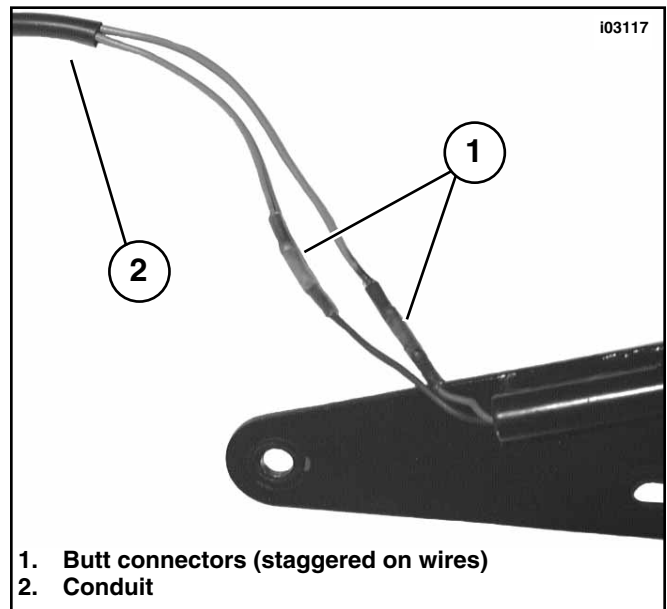

Figure 9. Install Wiring Harness
11. See Figure 9. Obtain two sealed butt connectors (1) (Part Number 70585-93) from kit. Following instructions in Service Manual under "Installing Sealed Butt Connectors", match wire colors and splice wiring from turn signal to harness. Install butt connectors in a staggered pattern so conduit will tightly fit over wires. Slide conduit (2) from harness over butt splices and approximately 2" into bracket tube.